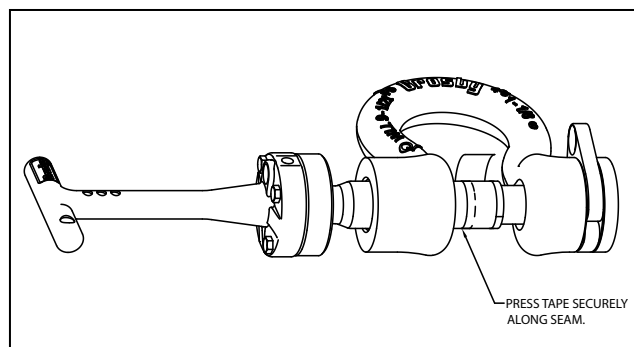

Figure 2
2. With the bolt retracted out of the lock ear and the collar accessible between the ears, wrap the thin metal strip tightly around the stop groove, collar, thread relief, and threads. (See Figure 2)
2. With the bolt retracted out of the lock ear and the collar accessible between the ears, wrap the thin metal strip tightly around the stop groove, and collar. (See Figure 2)